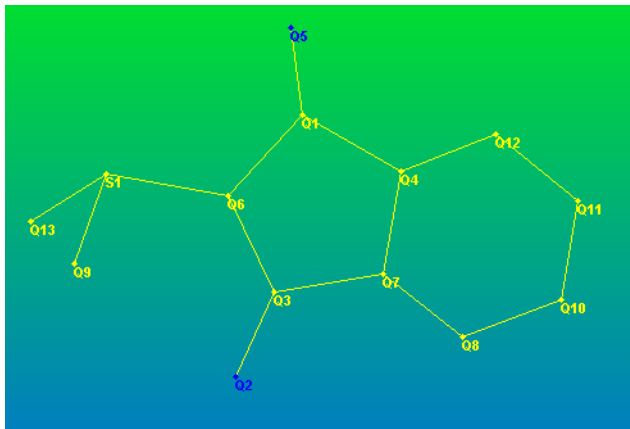

Figure 9.13 - New background color
2. If it is difficult to see the color and labels, change the color scheme by left-clicking on Preferences and then right-clicking on Background Color. Choose colors and click Apply. Click Cancel to exit the background color mode. Note that the selected peaks are blue in Figure 9.13.